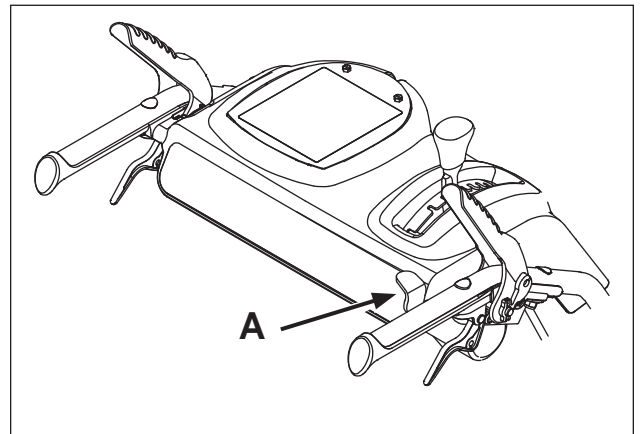

Fig. 003
3. Push the lever down using the right hand thumb (A) (Fig. 003).